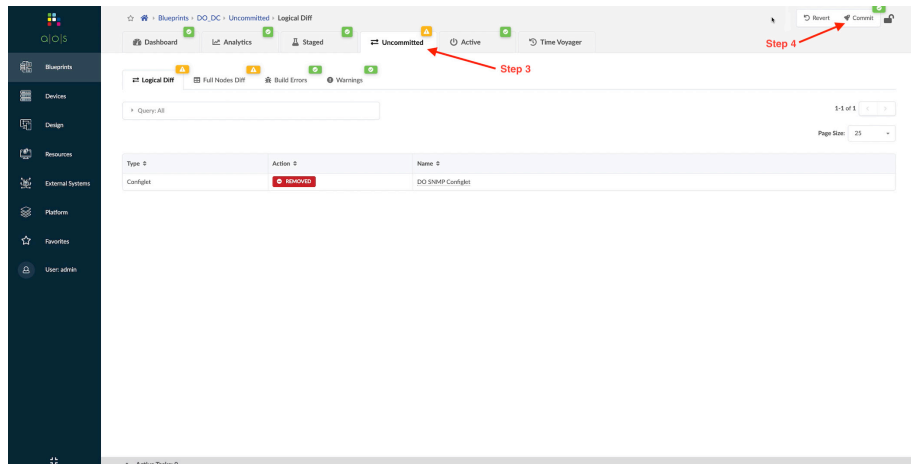

Figure 7.38 Committing the New Configuration to the Fabric
Step 3: Go to Uncommitted and review changes. See Figure 7.38.